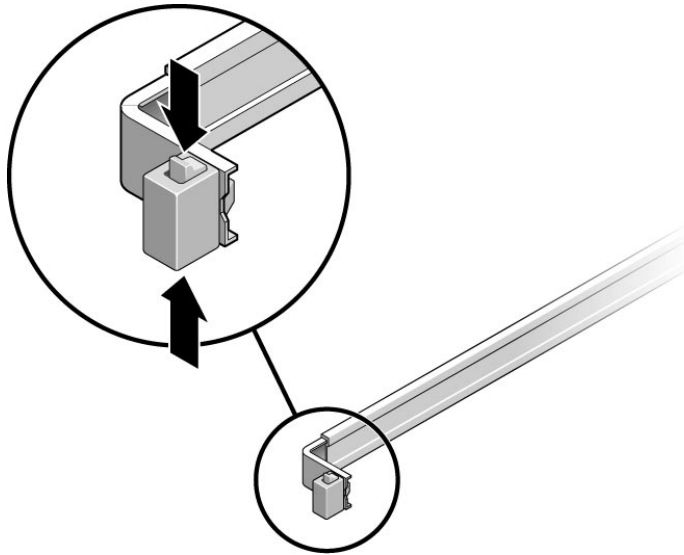

FIGURE 4-1 Unlocking a Mounting Bracket
5. From the front of the server, unlock both mounting brackets and pull the server chassis out until the brackets lock in the open position (FIGURE 4-1).